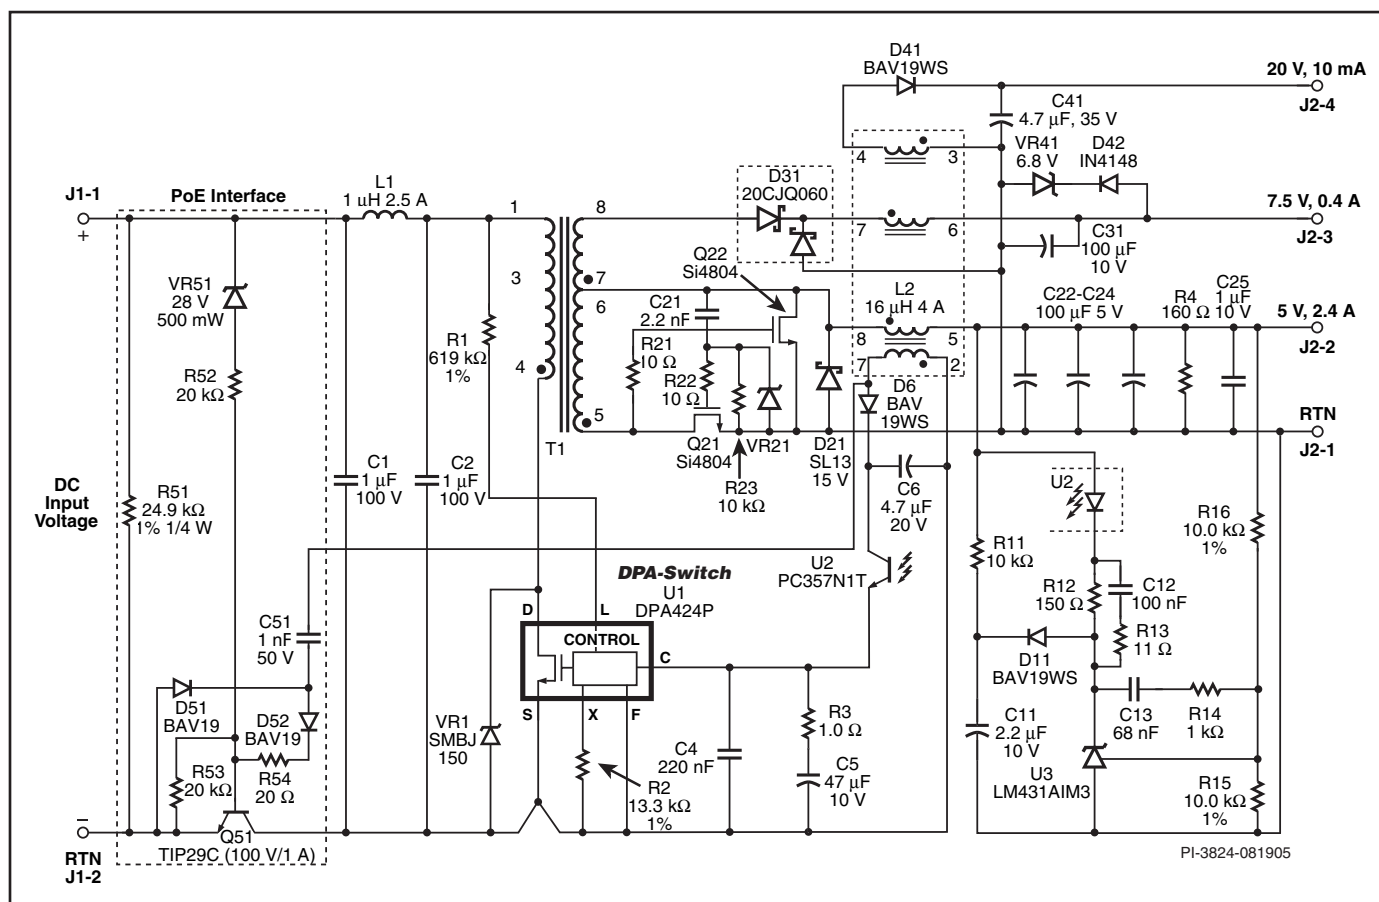

Figure 27. PoE Interface Circuit Using a Bipolar Transistor Pass-Switch and DPA424P.
The basic circuitry to support IEEE standard 802.3af Power over Ethernet (PoE) is straightforward. Class 0 signature and classification circuits can be implemented with a single resistor and the required under-voltage lockout function is a voltage controlled pass-switch. By adding this circuitry to the front end of a DPA converter, a low cost and low component count PoE powered device (PD) power supply can be implemented. Figure 27 shows a typical PD solution.
2.5 VDC to 10 VDC. This impedance is provided by R51 in Figure 27.
In the third phase, the bipolar pass-switch (Q51 in Figure 27) connects the input voltage to the power supply at voltages above approximately 30 VDC (28 V+VR52). Zener diode VR51 conducts, driving the current through resistor R52 to the base of Q51. Resistor R53 prevents turn-on under other conditions. Once the Power supply has started, components D51, D52, C51 and R54 enhance the base-current drive by coupling power from the power supply bias winding.